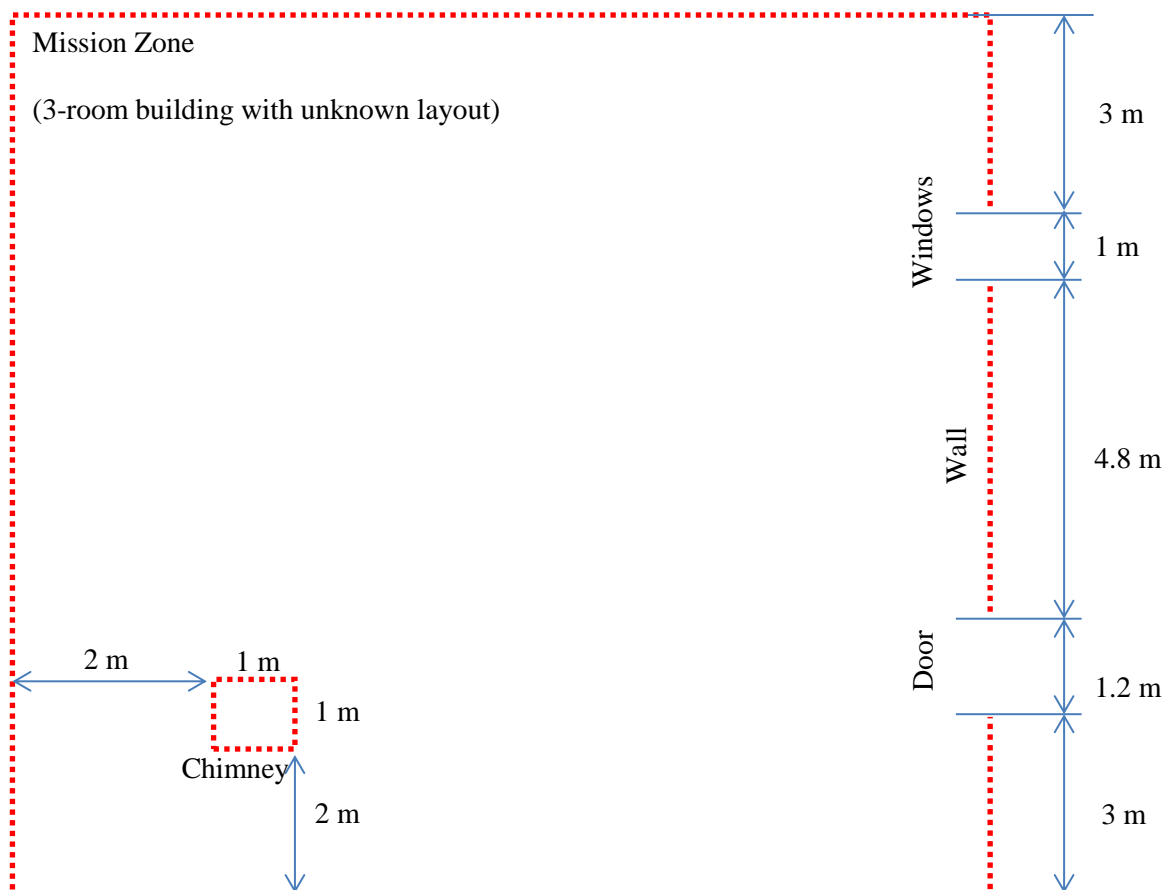
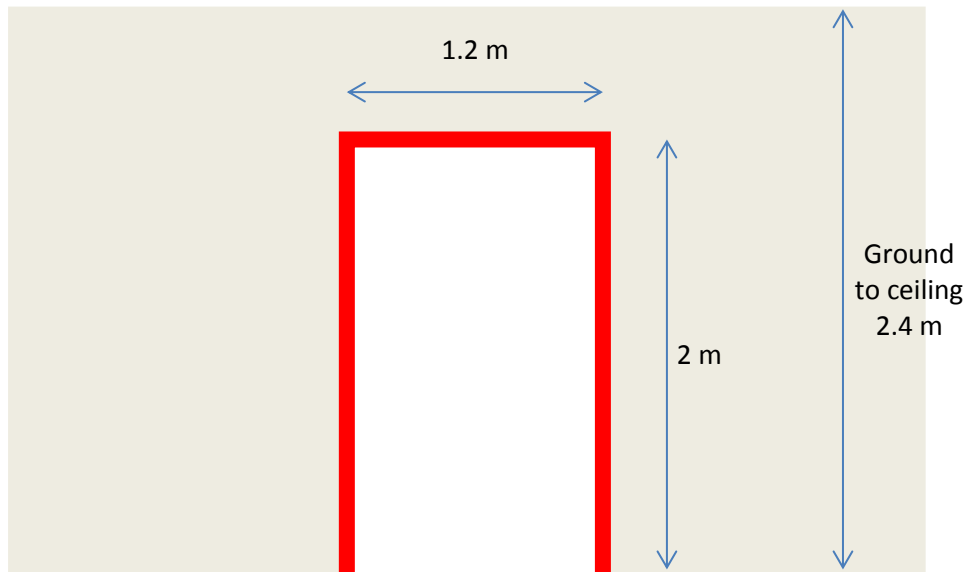
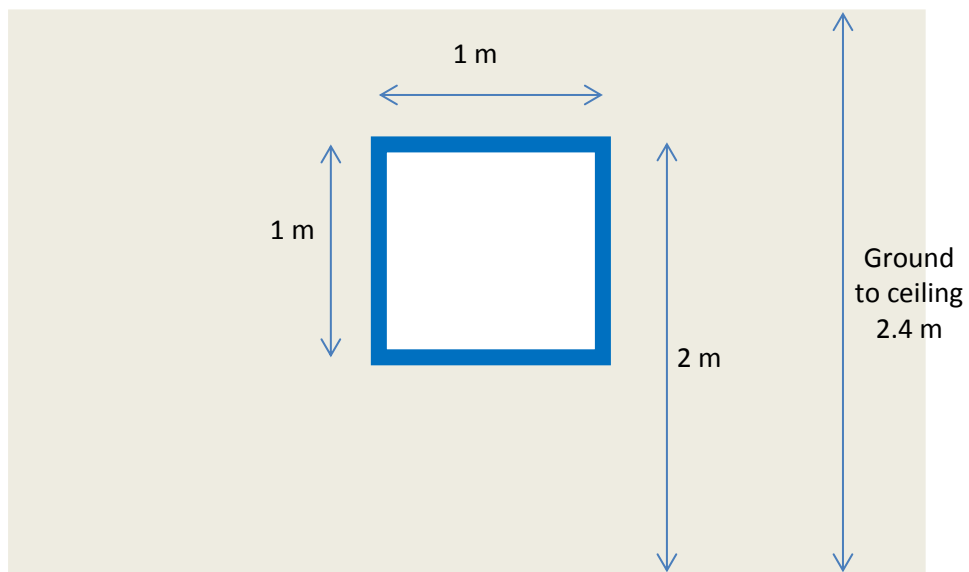
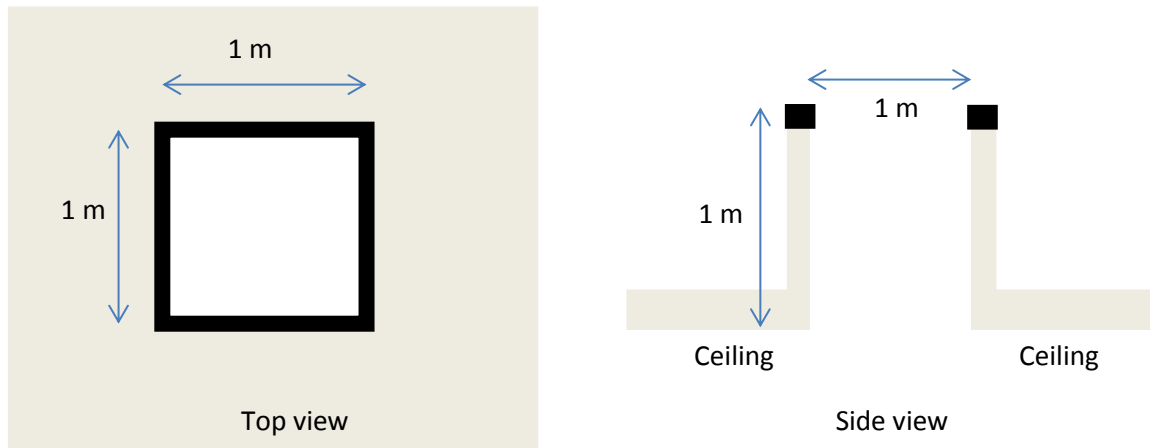

Figure 6-3: Mission Zone Layout
Figure 6-4: Doorway Entrance
Figure 6-5: Windows Entrance
Figure 6-6: Chimney entrance
Mission Zone (MZ) is the area enclosed by the building, serving as the main arena for most of the mission elements in the indoor challenge. Layout of the MZ is shown in Figure 6-3.
Detail dimensions of the entrances can be viewed Figure 6-4, Figure 6-4, and Figure 6-5. Note that color of the wall will be slightly grey¹².
The exits are the same course of the entrance in Mission element 2, except that Chimney will not be an exit. See Figure 6-3, Figure 6-4, Figure 6-5, and Figure 6-6 for visual illustration.